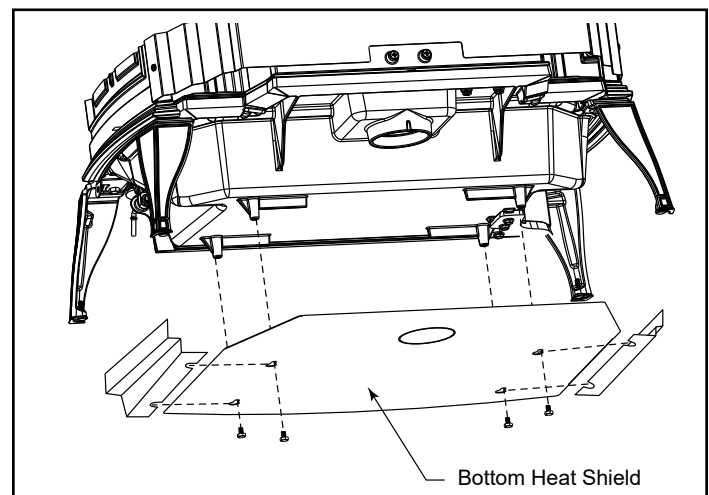

Figure 22 - Attach the bottom heat shield.
1. Install (4) 1/4-20 x 3/8" hex bolts supplied in the manual bag into the four holes located under the stove (Figure 22).
2. Align the bottom heat shield key holes to the four hex bolts previously installed into base. (Figure 22). The outside air cutout hole should be toward the rear of the stove.
3. Attach the heat shield sides by passing the slots over the bolt heads. Tighten the hex head bolts. Figure 22.